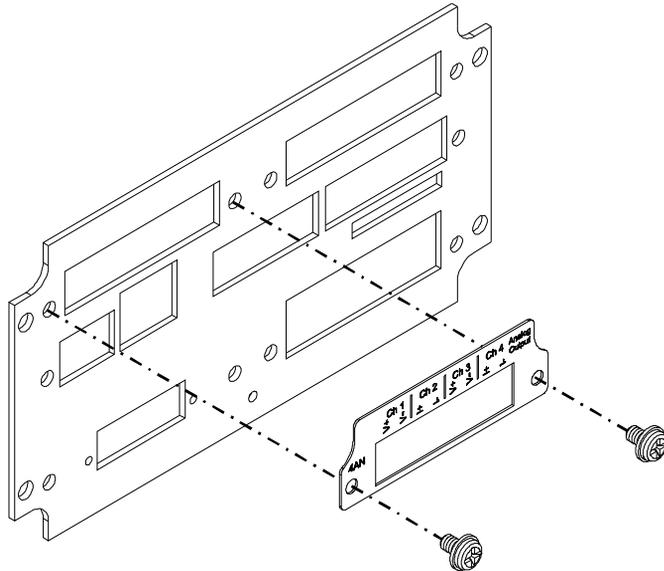

FIG. 26 INSTALLING THE ANALOG OUTPUT LABEL (-4ANB)
Step 8. Use the two (2) pan head screws (4-40 x .25") to fasten the rear panel to the card assembly. (See Figs. 26 & 27)